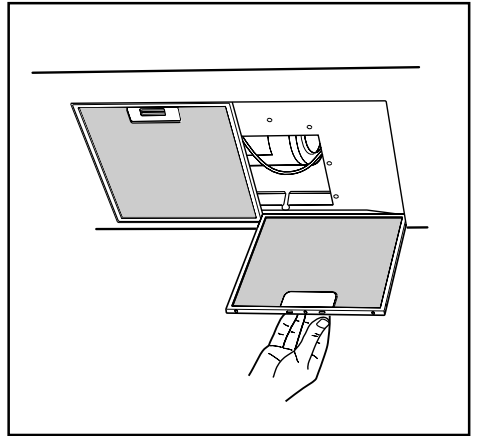

Fig.7
- The minimum distance between the support surfaces of the cooking pots on the cook top and the lowest part of the range hood must be at least 65 cm. If a connection tube composed of two parts is used, the upper part must be placed outside the lower part. Do not connect the range hood exhaust to the same conductor used to circulate hot air or for evacuating fumes from other appliances generated by other than an electrical source. Before proceeding with the assembly operations, remove the anti-grease filter(s) (Fig.7) so that the unit is easier to handle.